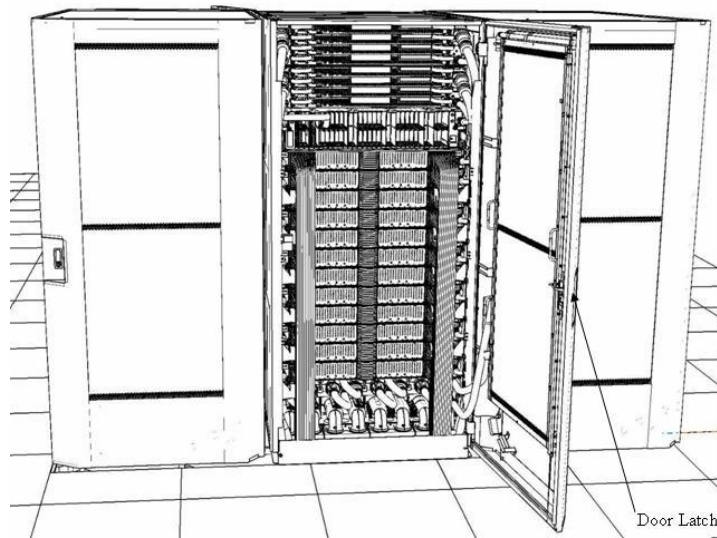

Figure 5 RDHX Open
STEP 9 Open the RDHX using the rear door latch (see Figure 5 RDHX Open).
Close and latch the RDHX (see Figure 5 RDHX Open).